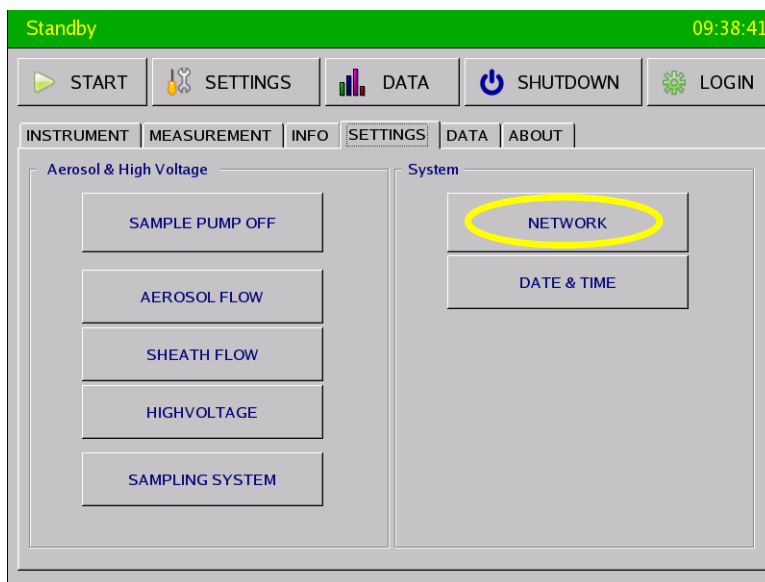

Figure 4-4
4. Next you need to reboot the instrument. Press **Shutdown** and select **Reboot** on the touch panel screen of the instrument to finish the settings (Refer to Figure 4-4).
6. After making any changes to the network settings, you need to reboot the instrument. Press **Shutdown** and select **Reboot** on the touch panel screen of the instrument to finish the settings (Refer to Figure 4-4). More information on the setup options can be found in Chapter 5, under Web Interface.